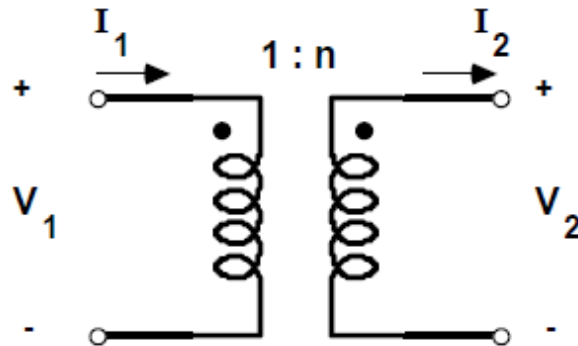

Figure 1
An ideal transformer is lossless, meaning that the complex output power at the load is equal to the complex input power. A simple diagram representing the ideal transformer is shown in Figure 1.
i.e., [# of turns in secondary winding]/[# of turns in primary winding]. The dots (•) at the top of the diagram in Figure 1 are used to indicate the polarity of the windings: a positive AC voltage V_1 results in a positive AC voltage V_2 .